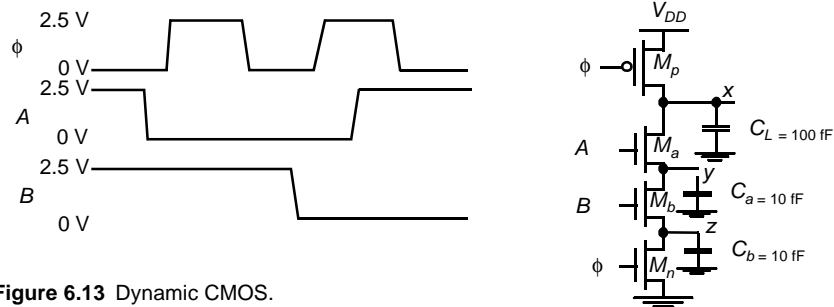

Figure 6.13 Dynamic CMOS.
- [M, None, 4.3] Sketch the waveforms at x , y , and z for the given inputs (Figure 6.13). You may approximate the time scale, but be sure to compute the voltage levels. Assume that $V_T = 0.5\text{V}$ when body effect is a factor.